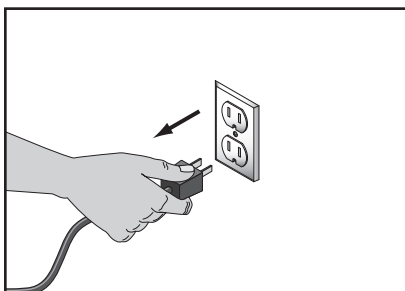

Figure 8. Disconnecting power.
2. Grasp the molded plug and pull it completely out of the receptacle. Do not pull by the cord as this may damage the wires inside (see **Figure 8**).